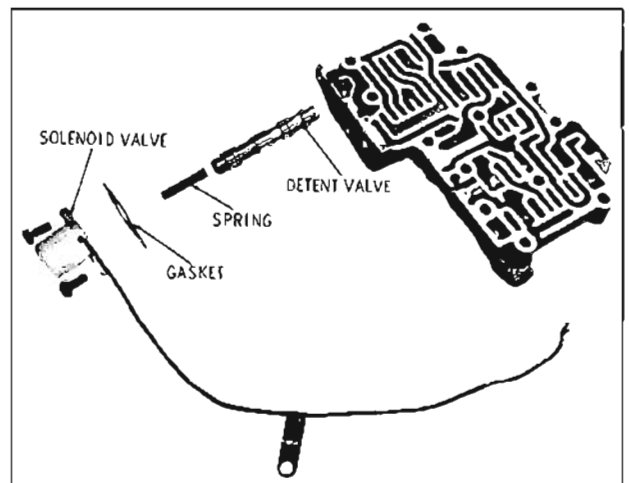

Fig. 6-307 Removing Detent Solenoid and Detent Valve
1. Remove two bolts attaching stator and detent solenoid valve. Remove the solenoid valve, gasket, spring and stator and detent valve (Fig. 6-307)